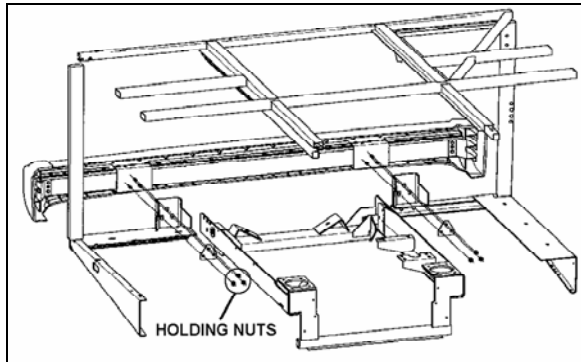

FIGURE 13: REAR BUMPER ASSEMBLY
1. Remove 6 nuts (3 on each side) holding bumper assembly to vehicle and remove bumper (Fig. 13).